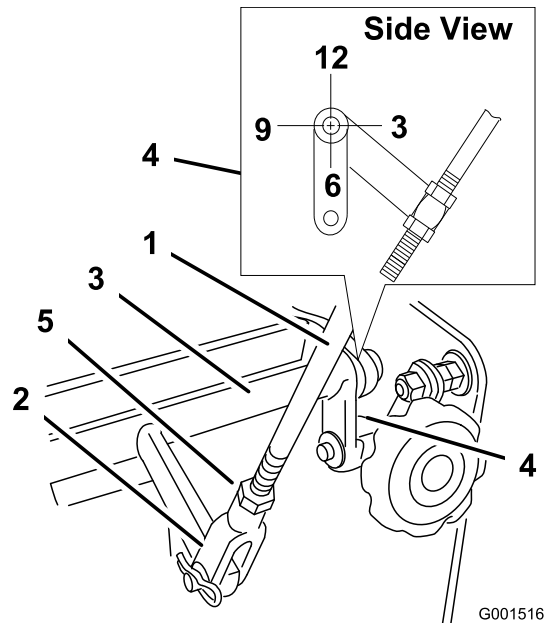

Figure 30
4. Check the orientation of the tabs on the ends of the speed control crank. Ensure these tabs are pointing straight down at the 6 o'clock position approximately (Figure 30).
5. Adjust the threaded yoke at the bottom of the speed control linkage until the tabs are at the 6 o'clock position (Figure 30).